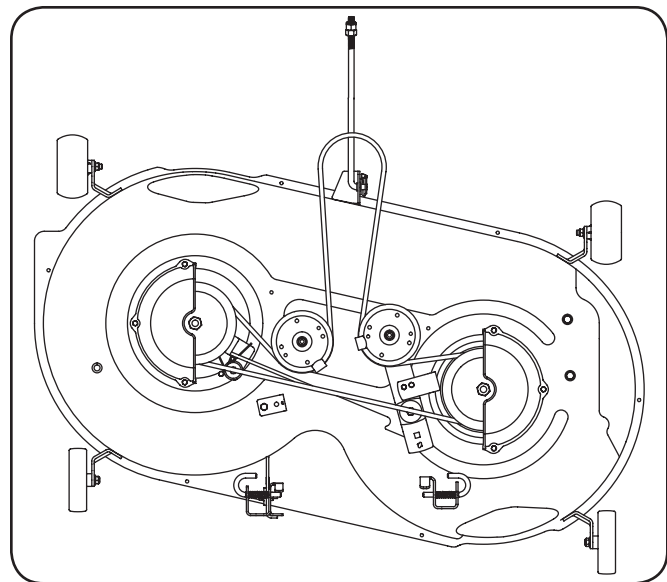

Figure 7-7
5. Route the new belt as shown in Figure 7-7.